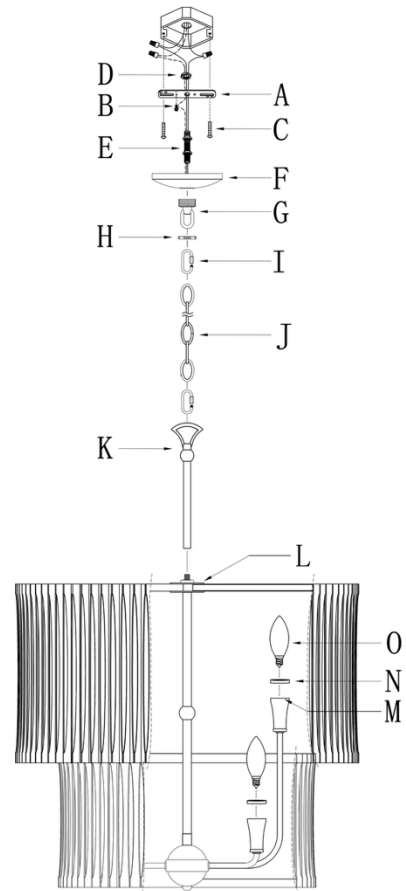

Fig. 2
CONNECTING THE WIRES (Fig. 2)
8. Connect electrical wires as shown in Fig.2, making sure that all wire connectors are secured. If your junction box has a ground wire (green or bare copper), connect the fixture's ground wire to it. Otherwise, connect the ground wire directly to the crossbar (A) using the green screw (B) provided.